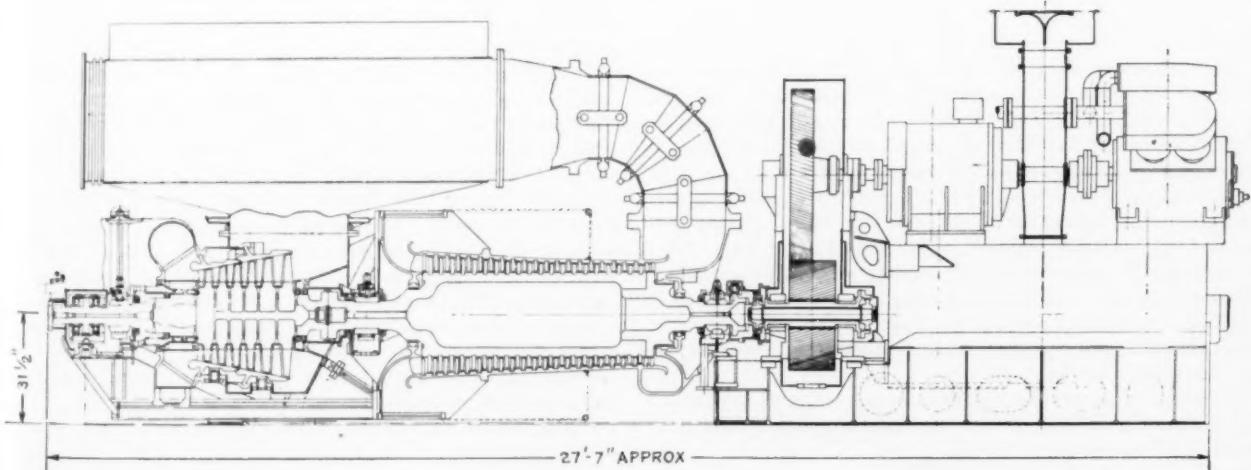

FIG. 6 LOCOMOTIVE GAS-TURBINE POWER PLANT
The prime-mover element shown in cross section in Fig. 6 is a six-stage reaction turbine designed to deliver 12,243 hp to the turbine-compressor coupling at a speed of 5700 rpm when the inlet-gas temperature is 1300 F, and compressor air-inlet conditions are 14.7 psia and 70 F.
**Rotor.** The compressor rotor body, Fig. 6, with an integral stub end at the high-pressure end is made from a single forging. The stub end at the low-pressure end is also made from a forging and is bolted to the low-pressure end of the rotor body and located with a forced centering fit. This simple method of rotor construction has been used extensively for large steam-turbine spindles and axial-flow compressors.
The results of this study indicated that a two-shaft generator having two armatures on each shaft would result in a symmetrically arranged generator assembly with respect to the longitudinal center line of the turbine, gear, and cab. The height of such a generator is low so that four of the locomotive auxiliaries are mounted on top and driven from the main reduction gear as shown in Fig. 6. With this arrangement, it was decided to operate the generator shafts at 1350 rpm. Further study showed that these shafts could be operated at 2000 rpm with considerable saving in weight without exceeding established practice for commutator speeds. This has been decided upon for this service.
Referring again to Fig. 6, the high-speed pinion operating at rated turbine speed of 5700 rpm is located between a driven gear on each generator shaft turning at 2000 rpm. The following locomotive auxiliaries mounted on top of the generator are driven from the main gear and operate also at 2000 rpm: